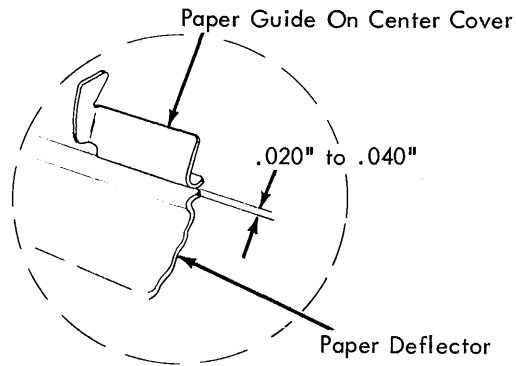

FIGURE 283. Shock Mounts
- c. The clearance between the paper guide and the deflector will be .020" to .040" (Fig. 283).